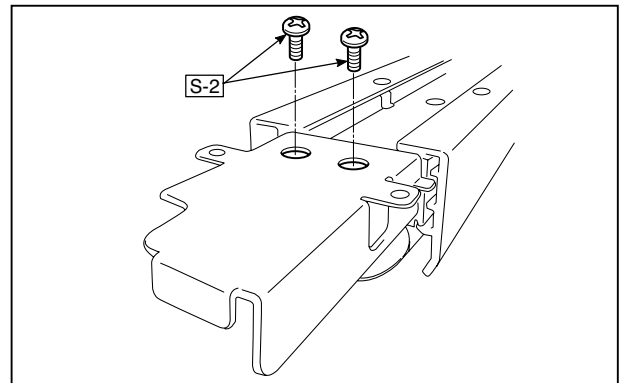

Fig.23
2. Remove the "S-2" screws shown in the figures 23 and 24 and then remove the CIS Unit.